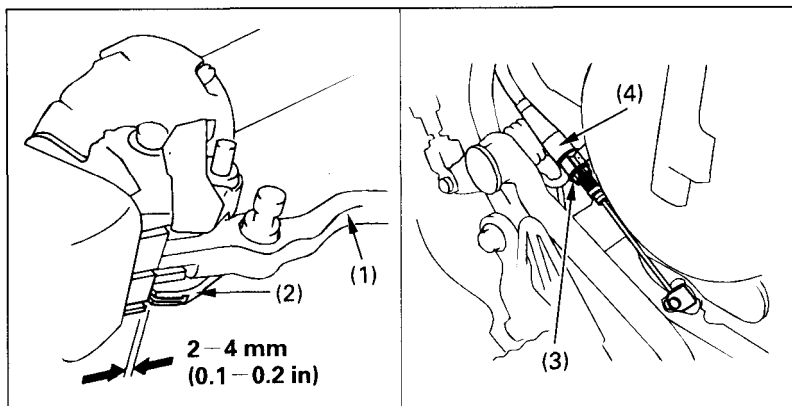

Fig. 4-19 (1) Clutch lever
Measure the reverse assist lever (2) free play. Free play, measured at the lever (2) end near the cable (Fig. 4-19), should be approx: